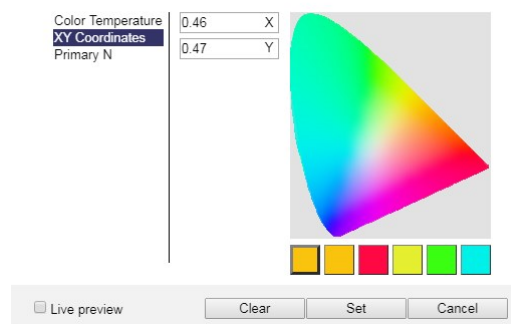

Figure 274: Scene colour selection for devices supporting colour type XY Coordinates.
- **XY Coordinates:** For devices supporting *XY Coordinates* a colour picker dialog as shown in Figure 274 appears when clicking on the lower value. Either manually enter the x and y coordinate of the scene colour within CIE 1931 colour space or pick the colour by clicking in the colour diagram on the left side of the dialog. The last six colour values used are shown in the history below the colour diagram for quick reference.